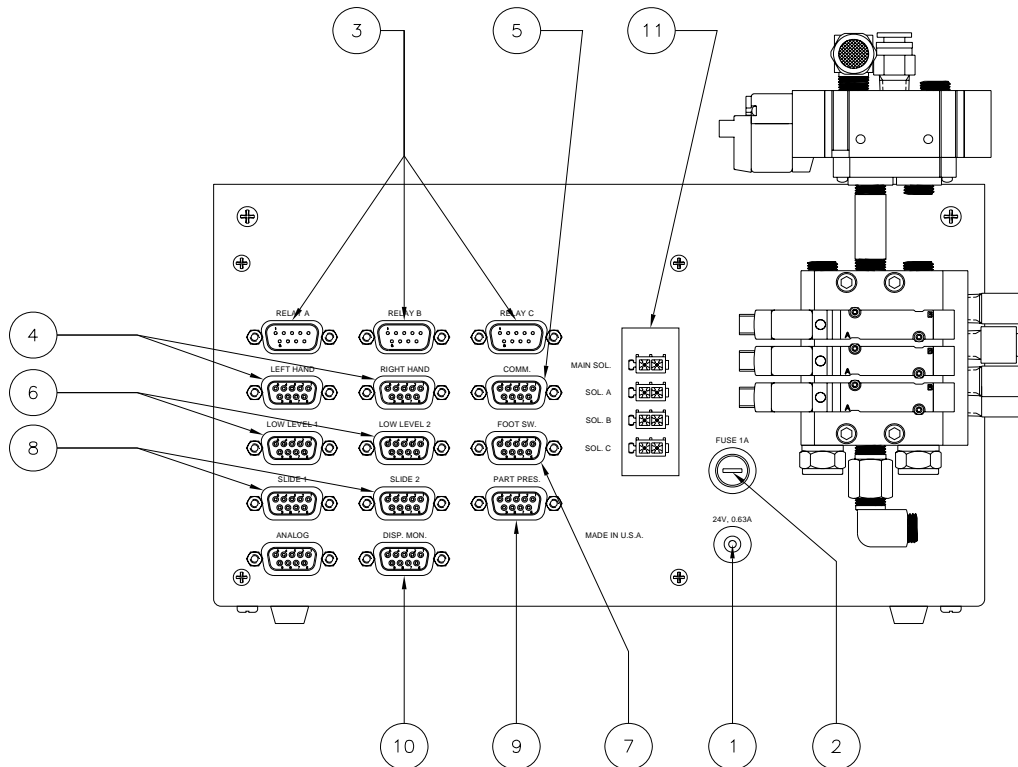

Figure 1, Electrical Connections. See Section 7.3 for Electrical Diagrams
2.2 Electrical Connections, refers to Figure 1
4.1 Installation, refers to Figures 1 and 2
2. Connect any electrical peripheral devices you wish to use with the Multi-Function Controller to plugs on the back of the Multi-Functional Controller (See Figure 1).